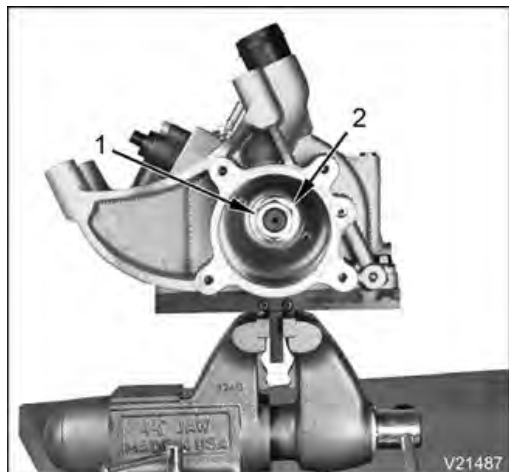

Figure 20. Holding Plate and Drive Housing Mounted in Vise
5. Install 25 x 44 x 4 washer and M24 jam nut. Torque M24 jam nut to 210 lb-ft (285 N·m) (Figure 20).